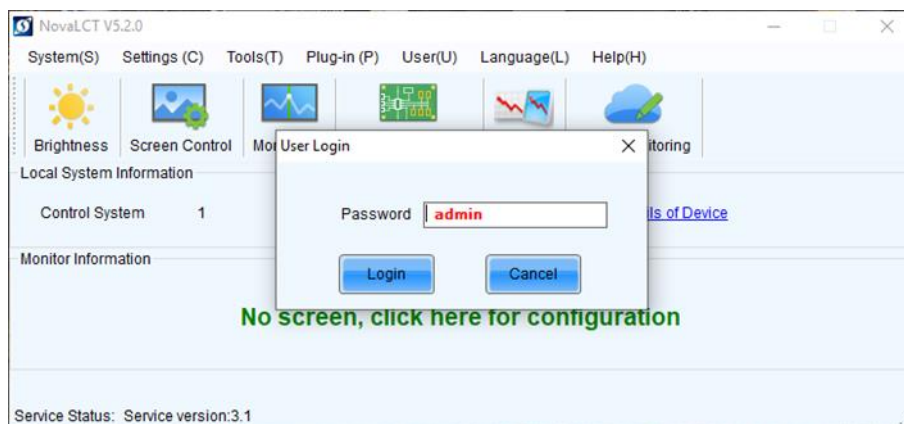

Figure 89: Entering Password
Step 4) Click the **Login** button to confirm the entry (see Figure 89).